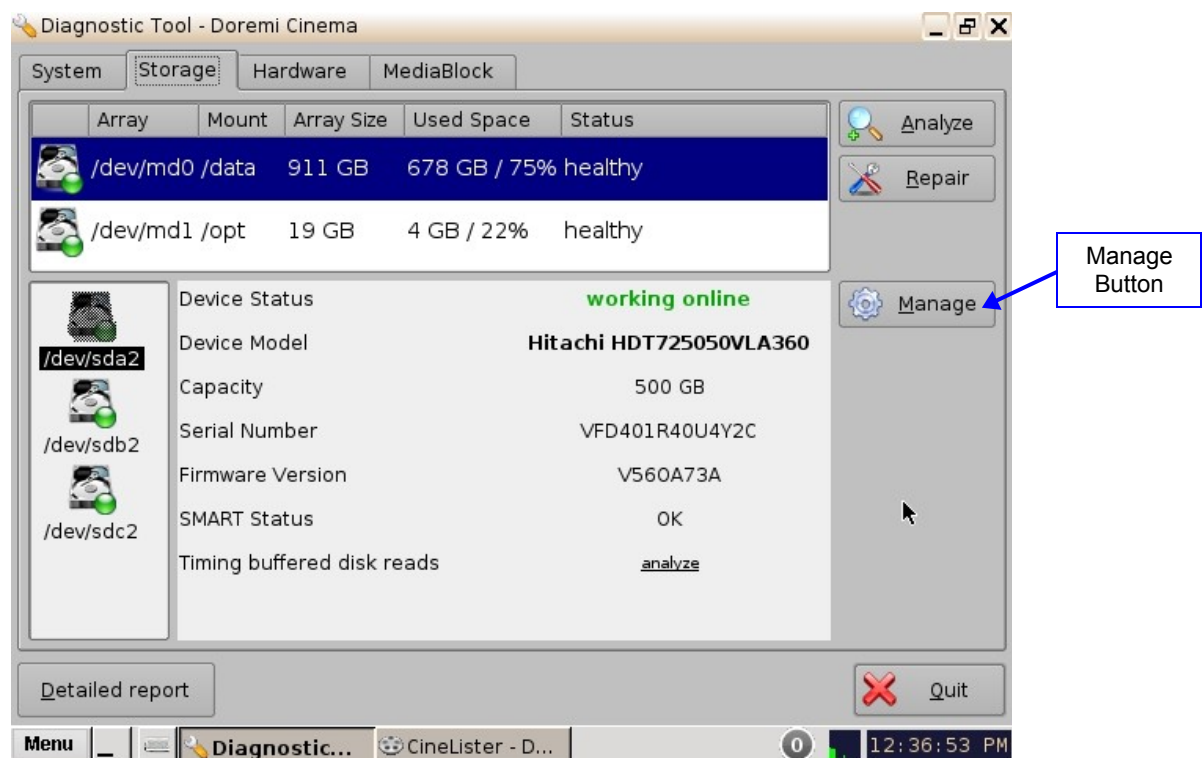

Figure 42: Storage Tab – Drive Disable Process
- From the Storage tab, select the desired drive from the Disk sub-view and then click the Manage button (Figure 42).